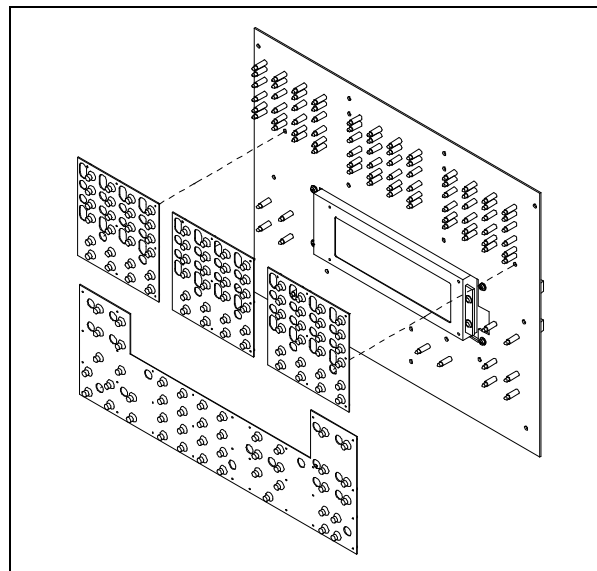

Figure 3. PCBA with Elastomer
6. Once free, you will see four separate elastomer actuators attached to the front side of the PCBA. Remove either the damaged or all four elastomers based upon repair requirements. See Figure 3.